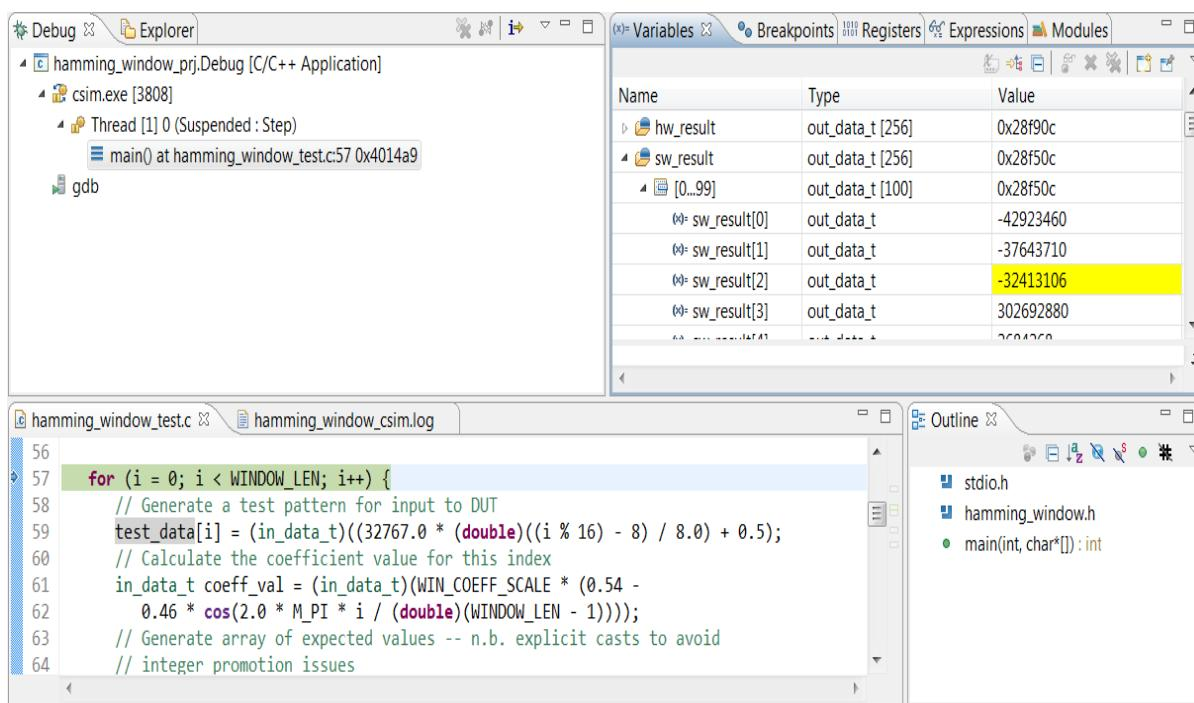

Figure 3-9: Analysis of C Variables
5. Expand the sw_result array to the view shown in Figure 3-9.